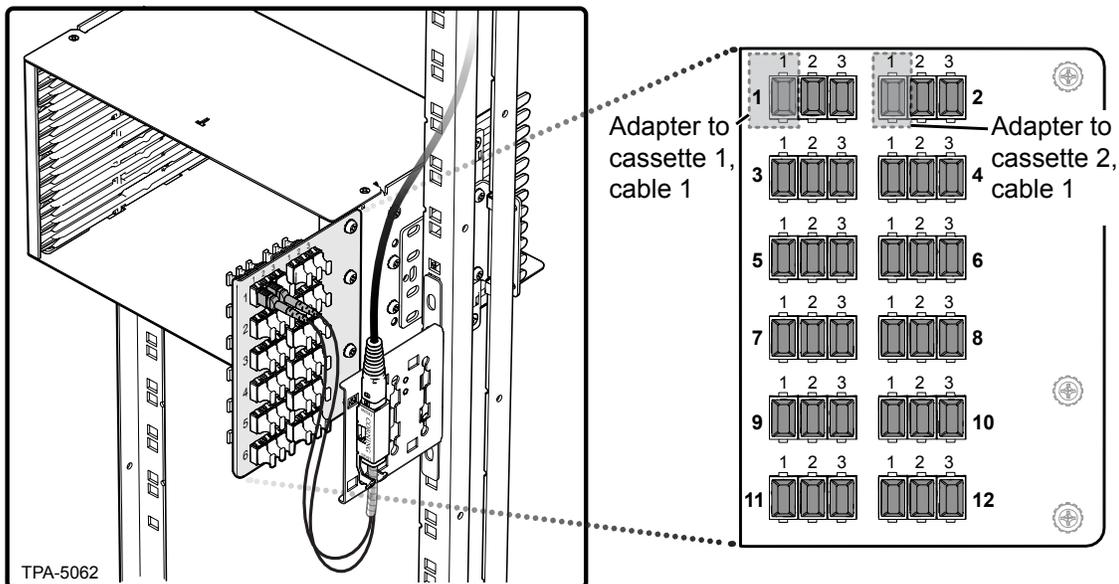

Figure 4
Step 6: Mate connectors into the adapters in the order listed on the bracket (Figure 4). For instance, the first input cable to the first leg of the first cassette connects to adapter 1:1; the first input cable to the first leg of the second cassette connects to adapter 2:1.